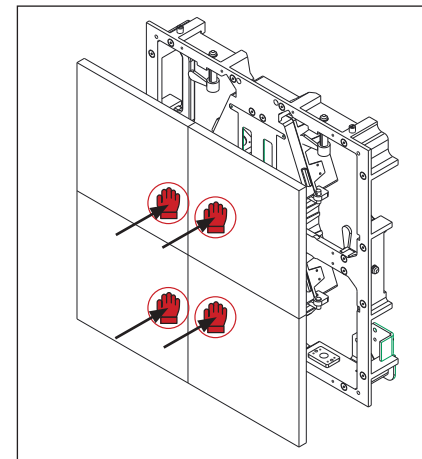

Figure 6: Power Entrance
6. To reinstall the module, align the connector on the rear of the module with the corresponding connector on the panel. Place a gloved hand flat against the module face and press firmly. Refer to **Figure 6**.